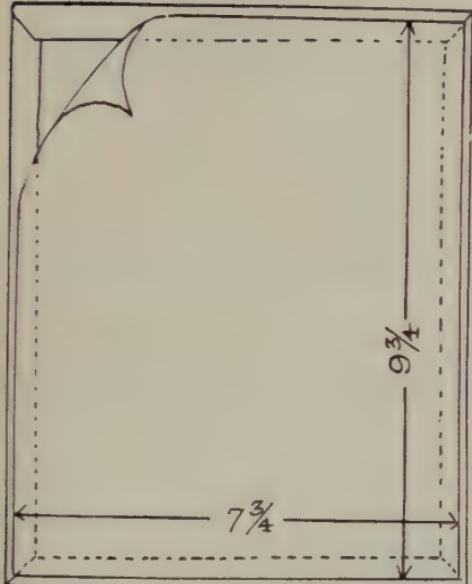

FIG. 85—DIAGRAM OF LINING PAPER FOR BACK OF CALENDAR BOARD
6. Glue-off and mount lining paper to reverse side—position carefully $\frac{1}{8}$ " from each edge—press. (Fig. 85.)